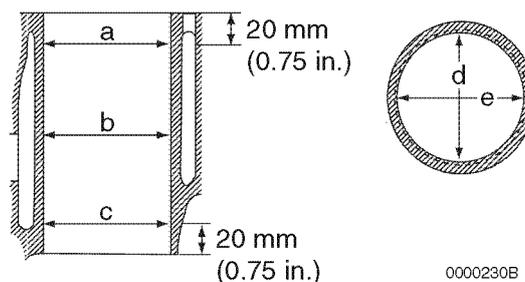

Figure 6-63
- Take measurements at three places (**Figure 6-63**) (**a, b, and c**), and in two directions (**d and e**) in each cylinder. Collect and record the measurements. See *Cylinder Block on page 6-12* for specifications.